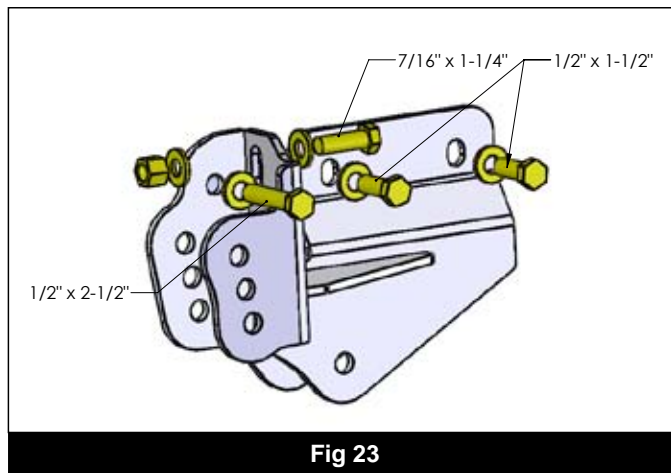

Fig 23
15. Reattach the bracket to the frame with new 12mm-1.50 x 35mm bolt with 12mm flat washer thru the OE skidplate mount. All the hardware for the rear control arm brackets is located in bolt pack #762. Install 1/2" x 1-1/2" bolts and 1/2" SAE washers into the rivet nuts. Fasten the bracket through the hole drilled into the body mount with a 7/16" x 1-1/4" bolt, nut and 3/8" USS washers. Fasten the bolt tab running out the bottom of the frame with a 1/2" nut and 1/2" SAE washer. Leave hardware loose until all hardware is installed. Torque 1/2" hardware to 65 ft-lbs and 7/16" hardware to 50 ft-lbs. Note: Use Loctite on bolts that go into rivet nuts. (Figure 23)